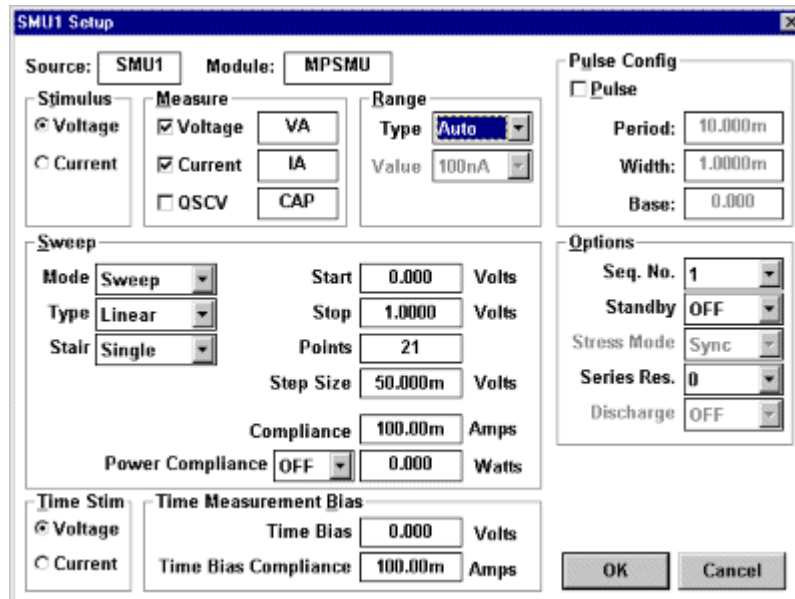
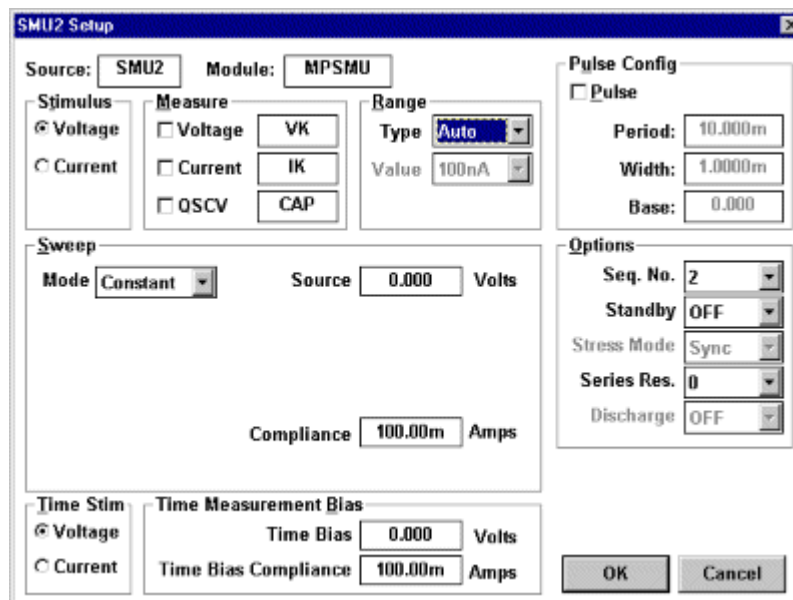

Figure 5: SMU1 Source/Measure Configuration for the DIODEON Test Setup
Figure 6: SMU2 Source/Measure Configuration for the DIODEON Test Setup
2. Configure the SMU1 controls as shown in Figure 5. Configure the SMU2 controls as shown in Figure 6. Use the mouse or TAB key to move between the different switches and fields in each Source Unit Setup dialogue box.